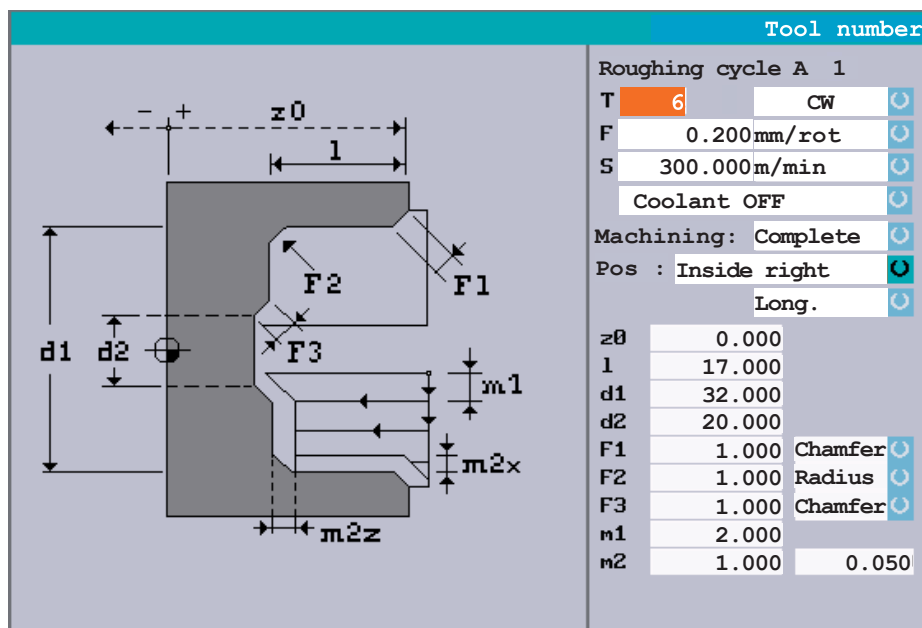

Figure 8-1. Roughing Cycle A Screen
- **Fill in cycle data**, according to figure 8-1